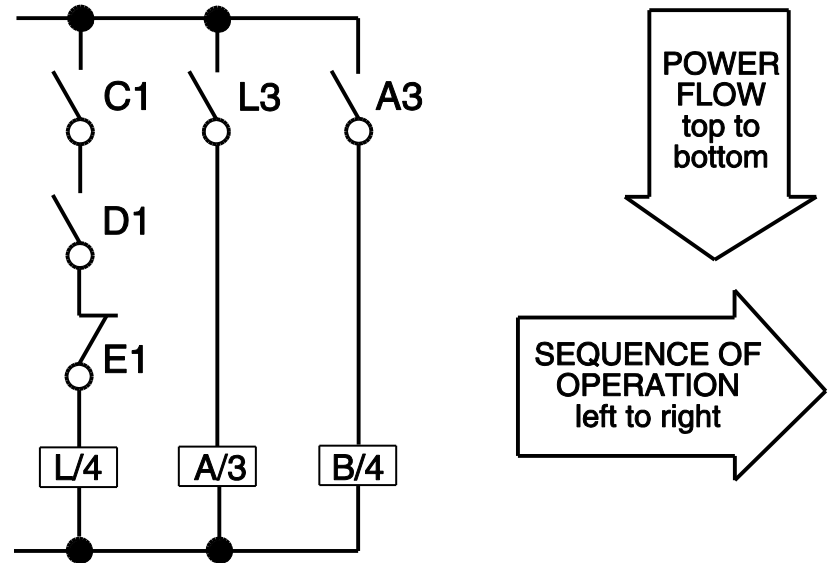

Fig. PF-4-1-30– Vertical Circuit Arrangement
- power flow top to bottom and operating sequence left to right (**Fig. PF-4-1-30**)